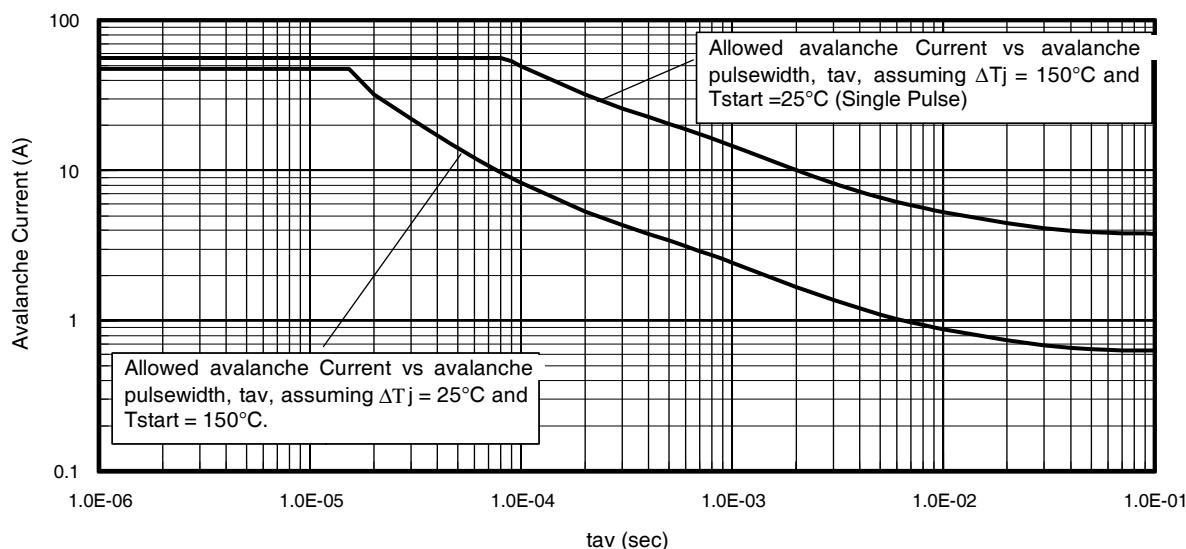

Fig 15. Typical Avalanche Current vs. Pulsewidth
| I_{AR} | Avalanche Current ② | See Fig 15, 16, 23a, 23b | A |